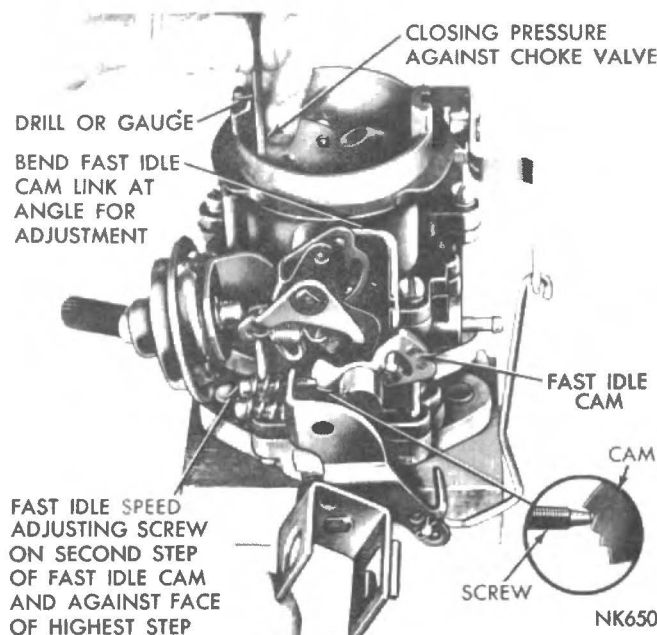

Fig. 14 - Fast Idle Cam Position Adjustment. (typical).
(1) With the fast idle speed adjusting screw contacting the step on the fast idle cam shown in Fig. 14 move the choke valve toward the closed position with light pressure. Insert a drill or gauge between the choke valve and the wall of the air horn. (Refer to Specifications for Drill or Gauge Size).
(2) An adjustment will be necessary if a slight drag is not obtained as the drill or gauge is being removed.
(3) If an adjustment is necessary, bend the fast idle rod at the upper angle, using Tool T109-213, until the correct valve opening has been obtained. Refer to Fig. 14.